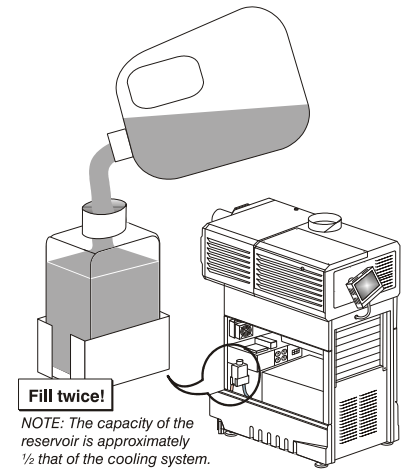

**Figure 3-15 Connecting the Hoses**
- a. To create this loop, connect the **OUT/warm** and **IN/cool** hoses as described below. **NOTE:** *Hose connections may not be labeled.* Be sure to depress each hose connector tab before inserting the hose end, then release to seal (**Figure 3-15**). This prevents damage caused by forcing the gasket end into a closed connector. Listen for a click.